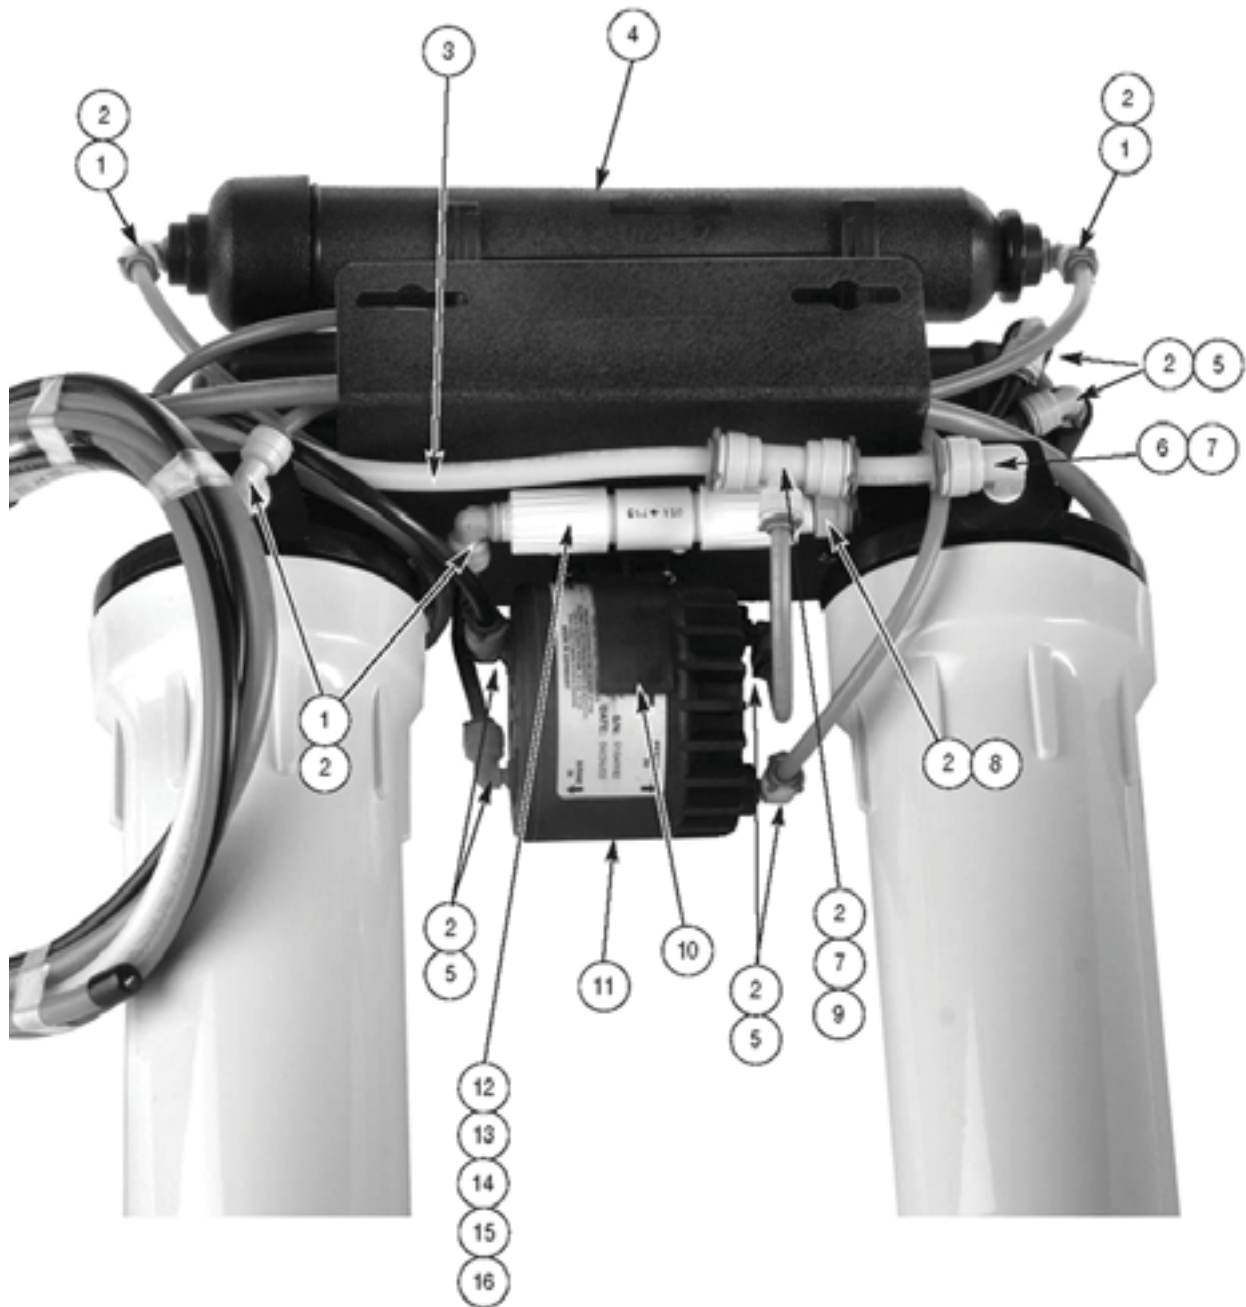

Figure 17: RO Assembly (Back View)
4. Remove the 1/4-inch red locking clip from the elbow on the "OUT" port of the pre-filter cap, (See Figure 17, Item 1). Disconnect the red tube.
5. Remove the 1/4-inch red locking clip from the 3/8-inch x 1/4-inch reducing tee, (See Figure 17, Item 9) and disconnect the 1/4-inch blue tube from the 1/4-inch branch of the reducing tee. Use a suitable length of 1/4-inch polyethylene tubing and connect to the elbow and tee connections.